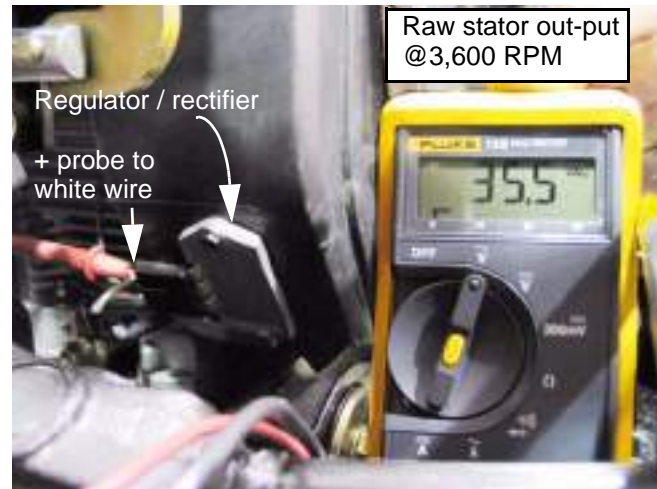

Figure 7.27
1. First check the raw A.C. Voltage output from the stator. It will be necessary to compare it to the engine manufacturer's specified output. This varies from model to model. See Figure 7.27.